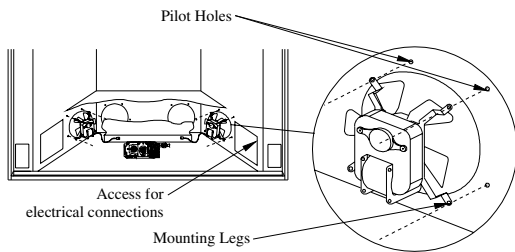

Figure 4 Cutaway view of control compartment showing fan motor installation.
- Install each fan motor with the blades facing the 4" round fan opening. Attach the mounting legs by screwing into the pilot holes around the fan opening. Spin the fan blades by hand to ensure they don't hit the fan opening. (See Figure 4.)